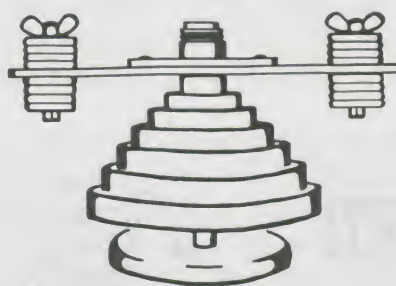

Figure 57. Adding counterweights will restore the dynamic balance.
8. *Add four washer counterweights to each of the bolts, as shown in Figure 57. Be careful that the two sets of masses in each plane ("upper" and "lower") are arranged in exactly the same way with respect to nuts, washers, etc.*